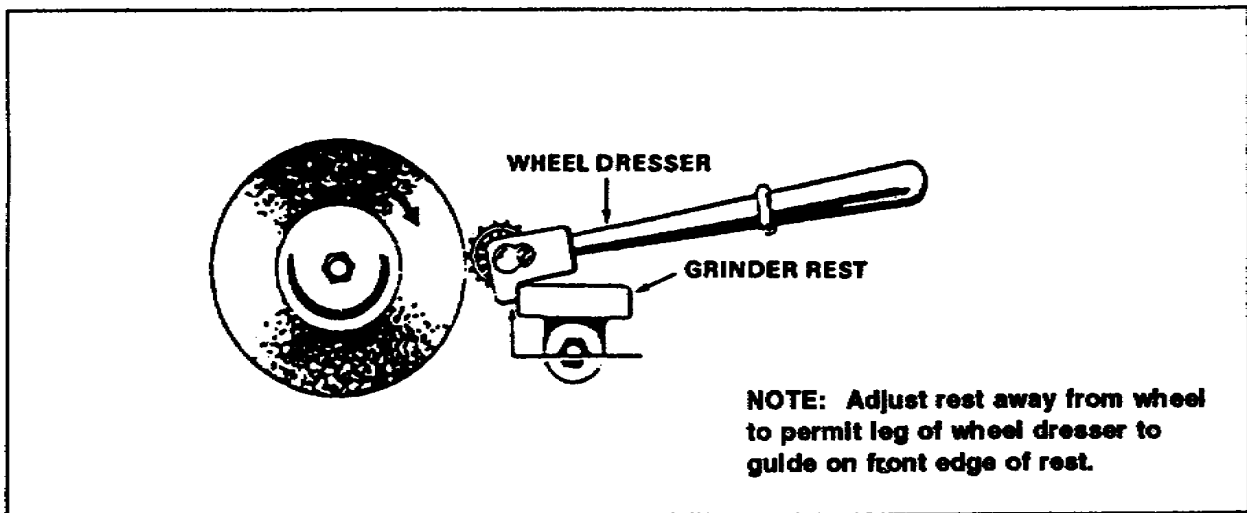

Figure 2-49. Grindstone
a. Grindstones. Most bench grinders found in carpentry shops are equipped with two grinding wheels: one of coarse grit and one with fine grit. Grinding wheels are held to the shaft by nuts, which squeeze the wheel between two special side washers. Grinding wheels are also rated by the turning speed they can withstand. Be sure you use stones made to withstand the rated revolutions per minute of the grinder electric motor. A tool rest is attached to the grinder frame and is adjustable for height as well as for distance from the stone. Most grinders are equipped with heavy-duty glass guards to permit watching as you grind. If there is no eye guard, you must wear safety goggles to protect your eyes. It is considered poor practice to use the side of the wheel for grinding. When the surface of the stone becomes irregular or filled with metal particles, use a stone dressing tool (Figure 2-49) to restore a good grinding surface. A water container, attached to the base of the grinder, is used for cooling parts being ground. Always cool the blades of tools you are sharpening to prevent destroying the temper of the metal with the excess heat generated from grinding. Heavy grinding is done on the coarse wheel, and light or finish-type grinding is done on the fine grit stone. Most cutting edges should be finished by hand, using a fine oilstone.